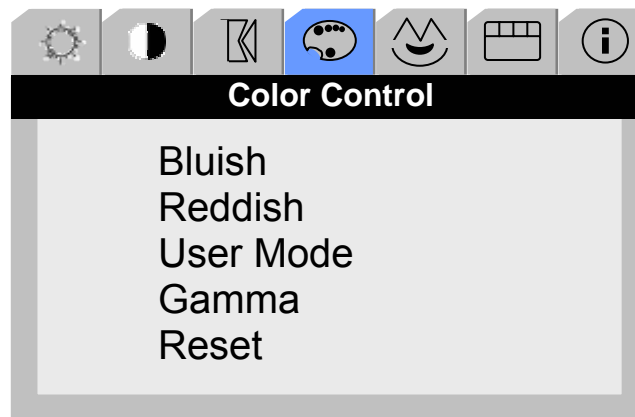

Figure 28: Color Control
2. Using the + or – button, choose Color Control, see Figure 28.
2. Using the + or – button, choose the Language tab, see Figure 28.